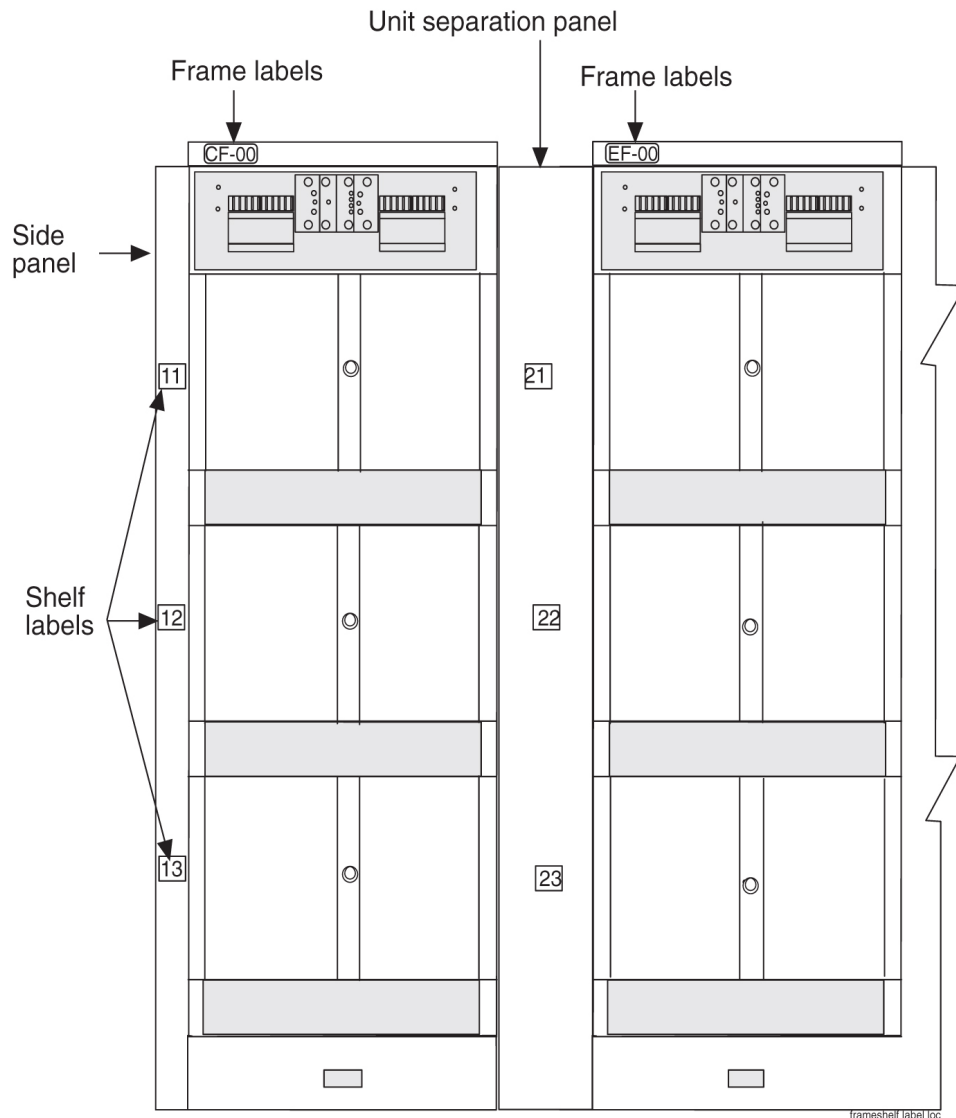
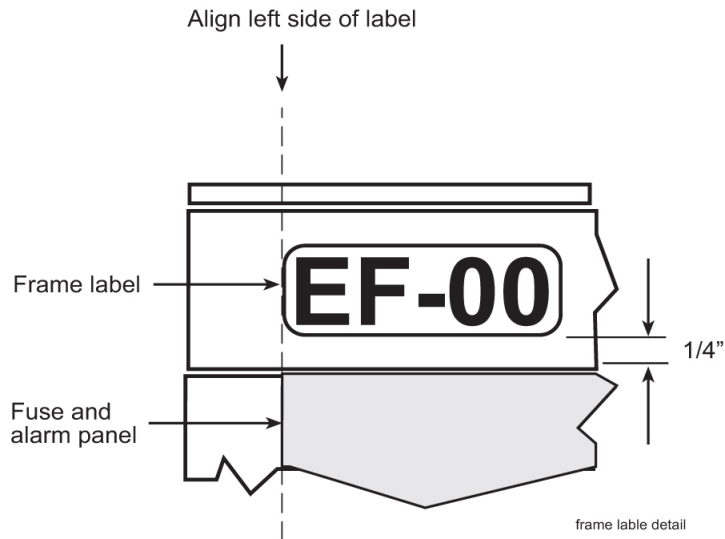

Figure 32: Frame and Shelf Label Locations
Figure 33: Frame Label Location - Detail
All of the frames shown in Table 7: Frame Labels and Part Numbers are labeled the same way on end panels and separation panels, see Figure 32: Frame and Shelf Label Locations and Figure 33: Frame Label Location - Detail.
Apply frame labels to the front of each frame as shown in Figure 32: Frame and Shelf Label Locations.
2. Firmly press the label into place as shown in *Figure 32: Frame and Shelf Label Locations* and *Figure 33: Frame Label Location - Detail*.